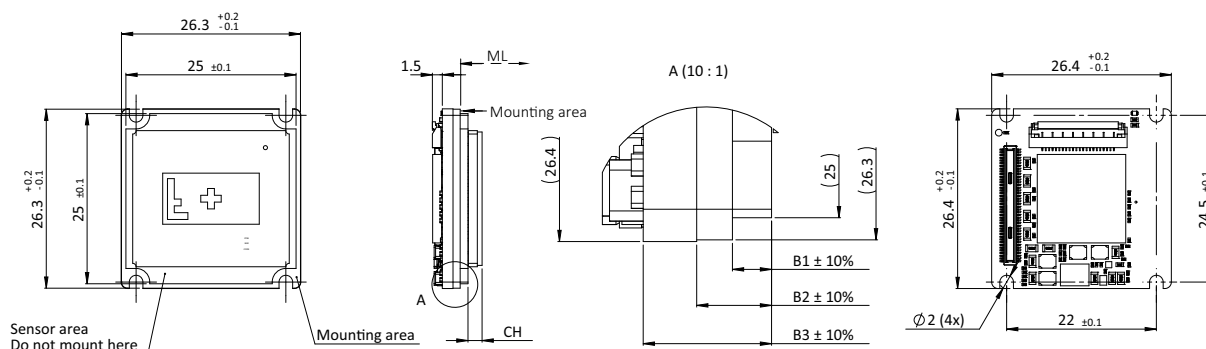

Figure 75: Bare Board (standard Alvium) dimensions
Dimensions that are common between different models are shown in Figure 75, model specific dimensions are listed in Table 101. **Mechanical length (ML)** defines the mechanical distance from the mounting area to the lens mount front flange, without optical filter. **Components height (CH)** relates to the electronic components with maximum height, sometimes the sensor.